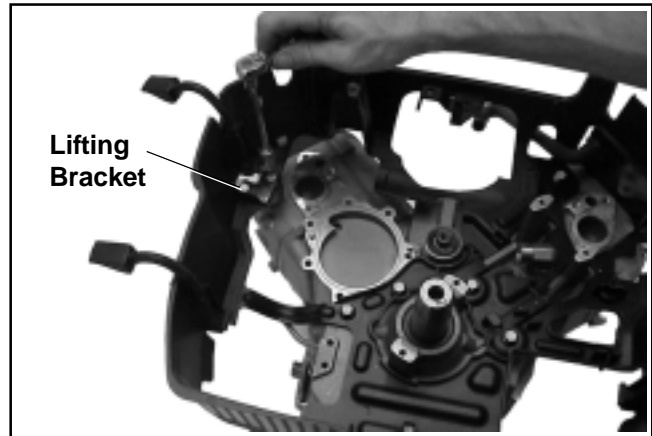

Figure 9-54. Removing the Eight Lower Blower Housing Mounting Screws and Lifting Bracket.
2. Remove the eight hex. flange thread forming screws securing the lower blower housing to the crankcase. Note the location of the lifting bracket attached to the blower housing mounting screw on the No. 2 side. See Figure 9-54.